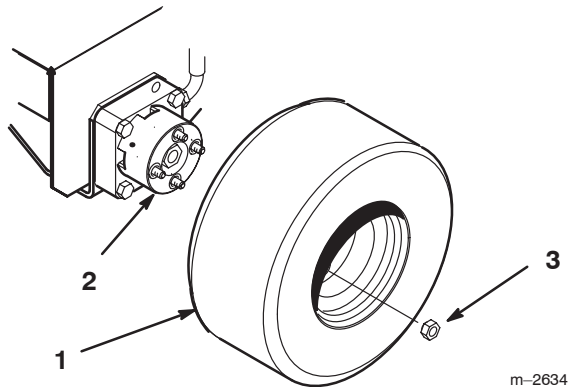

Figure 2
1. Mount wheels to wheel motor hubs with 8 lug nuts (Fig. 2). Torque bolts to 55 ft-lb (75 N·m).